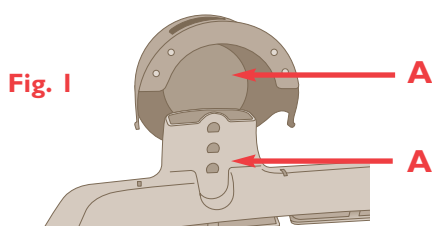

Fig. 2
Step 3. Insert assembled legs through the wheel openings into mounting holes of wheel and base, by pushing button in and pressing the tray hood down (Figure 2).